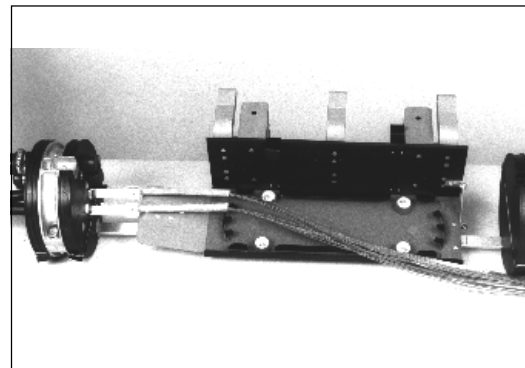

FIGURE 23 - ORGANIZER BAR TO END PLATE
12.02 Remove the torque bar attachment bolt from the End Plate and secure the organizer bar to the End Plate. (Figure 23)